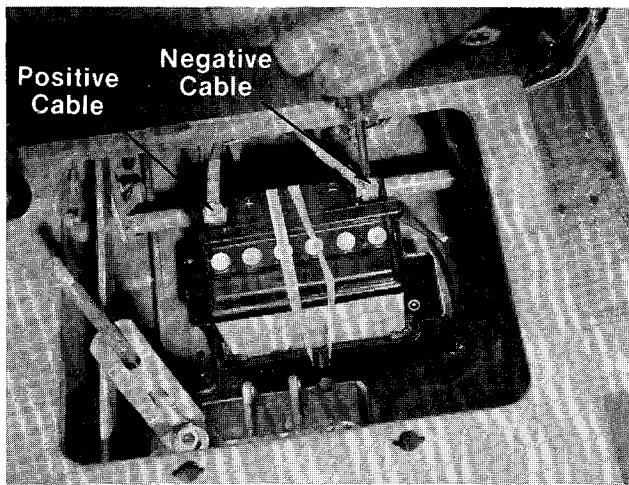

FIGURE 16.
9. Slide the square nut (provided with battery hardware) into the negative (-) terminal. Place the negative (heavy red wire) cable on the negative terminal. Secure with screw and lock washer provided. See figure 16.